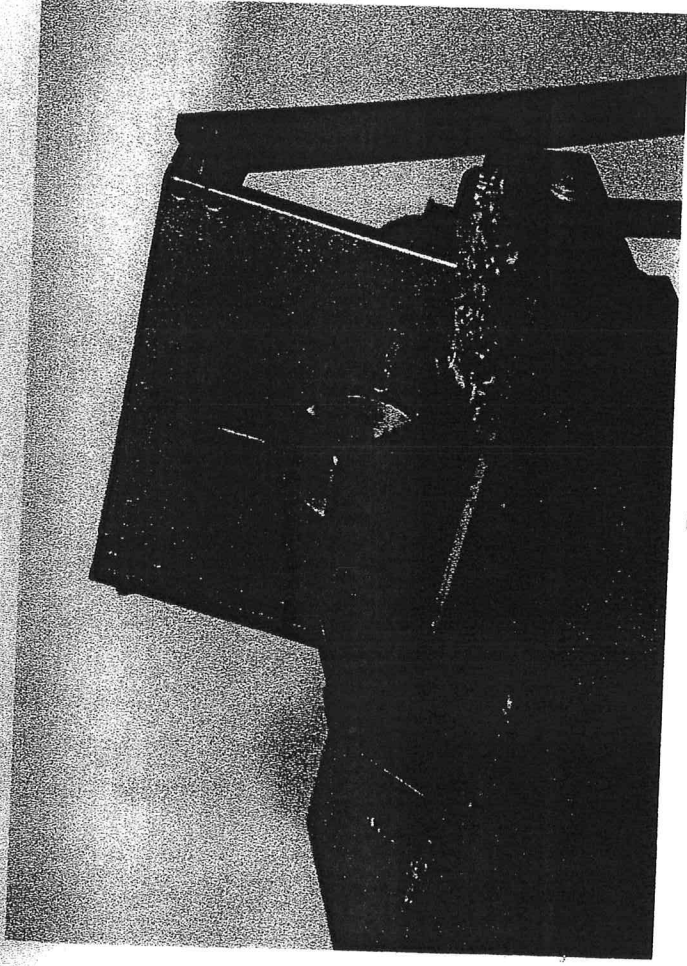

Fig. 35
5. Lower table 8 turns. Make an end groove in workpiece B. This creates the socket for the pin. (fig. 35)